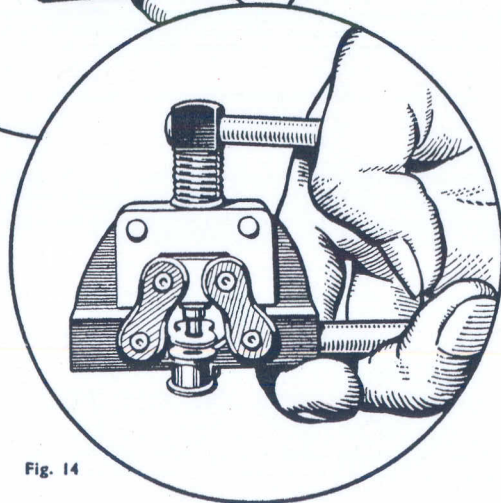

Fig. 14
3. Pass jaws over chain and release grip. Jaws should rest on a chain roller free of chain link plates (see Fig. 14).